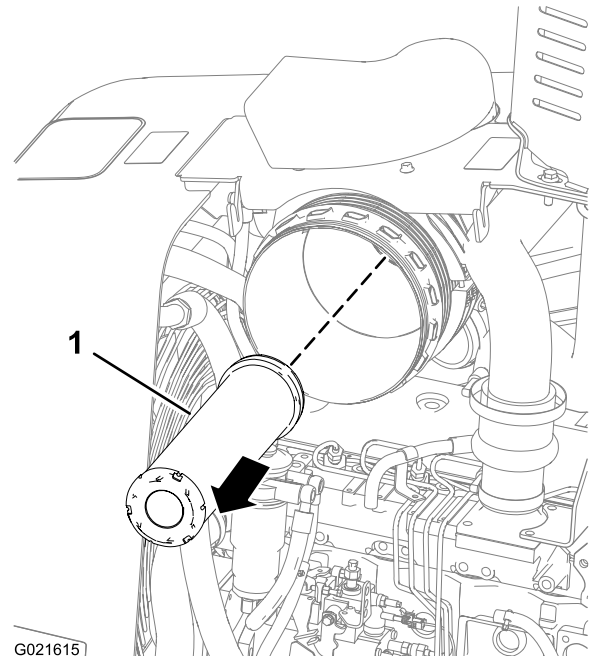

Figure 52
Pull the secondary air-cleaner element outward and remove it from the air-cleaner housing. (Figure 52).
4. Insert the new secondary air-cleaner element into the air-cleaner housing (Figure 52).